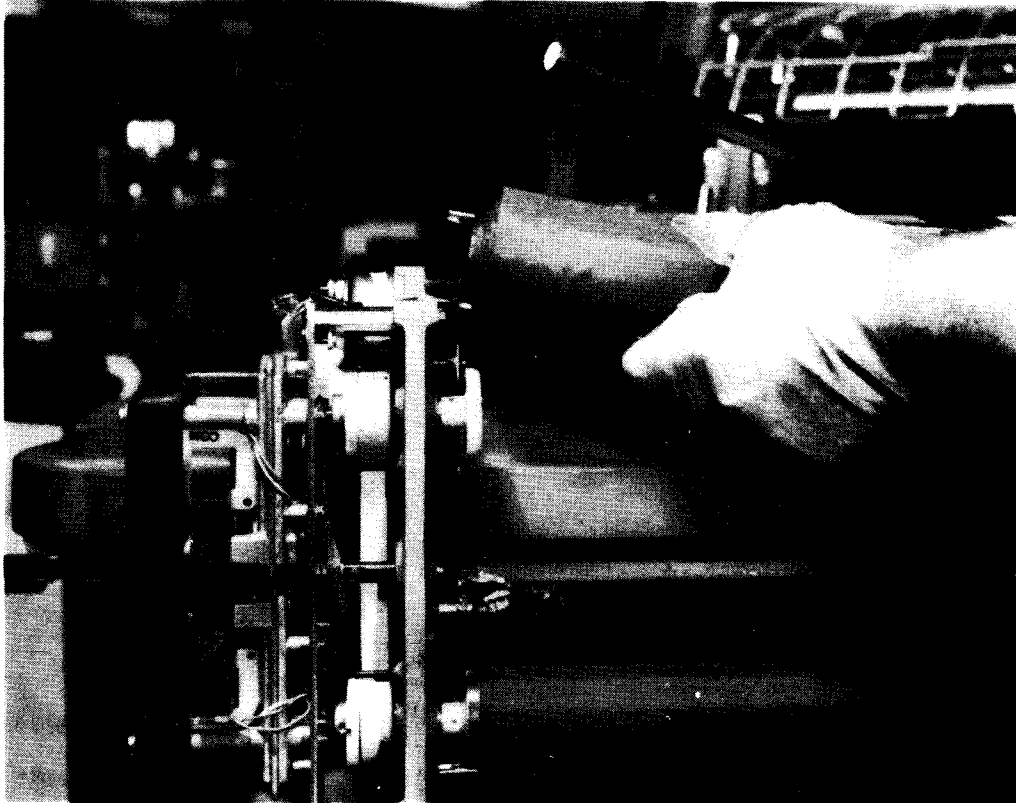

Figure 4-10. Removing Upper Takeup Spool
4. Wearing plastic gloves provided with new ribbon, remove upper takeup spool from upper spool holder (Figure 4-10).